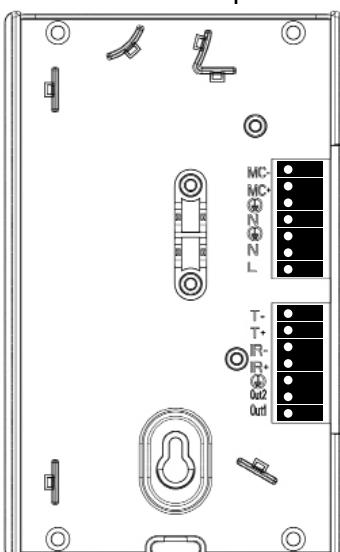

Fig. 1
Connections, see fig. 1
1. Connect the IR input's ground to the receiver unit's connection (see fig. 1) "IR-"
2. Connect the IR input's signal to the receiver unit's connection (see fig. 1) "IR+"
1. Connect the 12-volt trigger input's ground to the receiver unit's connection (see fig. 1) "TR-"
2. Connect the 12-volt trigger input's signal to the receiver unit's connection (see fig. 1) "TR+"
Anslutningar, se fig. 1
1. Koppla IR-anslutningens jord till kontrollboxen, märkning "IR-", se fig. 1
2. Koppla IR-anslutningens signal till kontrollboxen, märkning "IR+", se fig. 1
1. Koppla trigger utgångens jord till kontrollboxen, märkning "TR-", se fig. 1
2. Koppla trigger utgångens signal till kontrollboxen, märkning "TR+", se fig. 1